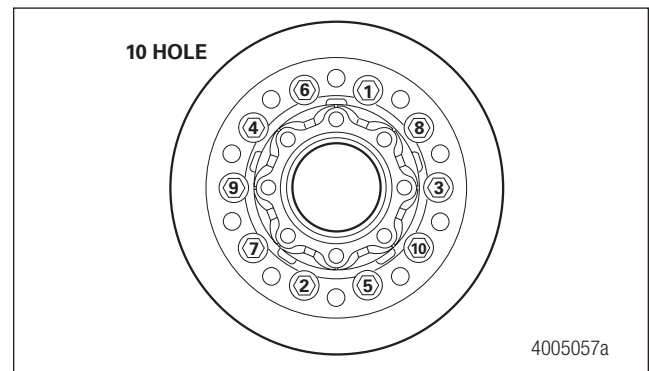
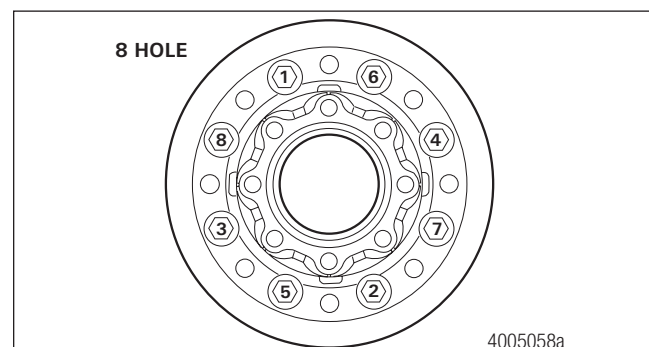

Figure 9.8 10-hole Rotor Torque Sequence
Figure 9.9 8-hole Rotor Torque Sequence
3. Tighten the hub-to-rotor bolts in a crisscross pattern to the correct torque. Refer to Specifications on page 35. Figure 9.8 or Figure 9.9.